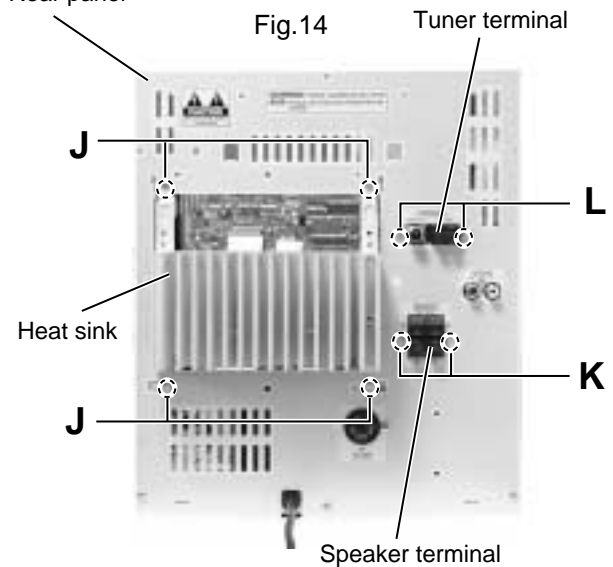

Fig.15
■ Removing the tuner board (See Fig.15 and 16)